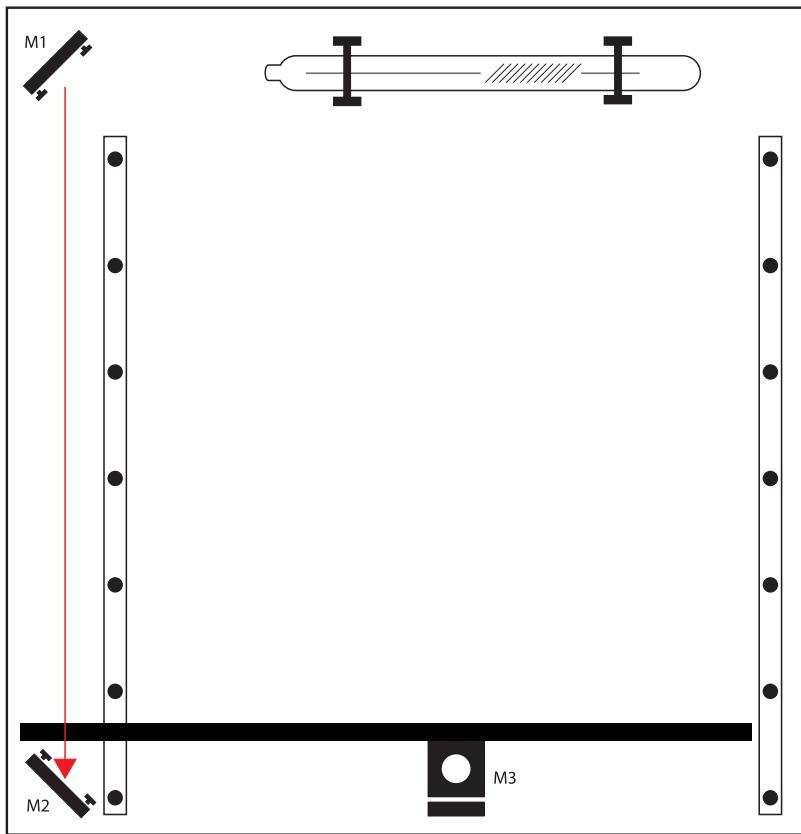

Figure 4.8
3. Position X-Gantry “Far”: Jog or manually position the x-gantry to the lowest position (as shown in Figure 4.8).
8. Re-Position X-Gantry back to “Far”: Jog or manually position the x-gantry to the far position where you did the first test fire. (as shown in Figure 4.8).